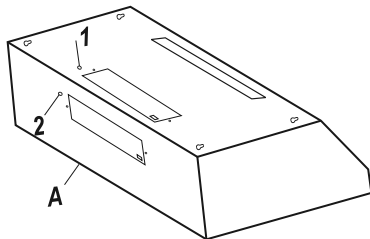

Fig. 10
- Choose the appropriate electrical knock-out hole to remove for your installation type. Use the top hole (1) if your electrical supply is in the cabinet and the back hole (2) if your electrical supply is on the wall below the cabinet (refer to Fig. 10).